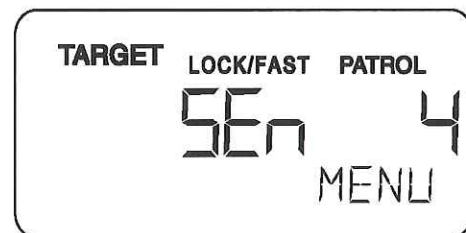

Fig. 3
The sensitivity of *STALKER II* is adjusted by pressing the **MENU** key a second time. The **▲** and **▼** keys then cycle through the five (5) sensitivity levels: **SEN 0**, **SEN 1**, **SEN 2**, **SEN 3**, and **SEN 4** (Fig. 3 shows sensitivity level 4, the factory default setting). In each case, the right-hand display refers to the current sensitivity setting. Sensitivity varies from **SEN 0** (0 range) to **SEN 4** (maximum range). Press the trigger to exit the Operator Menu.